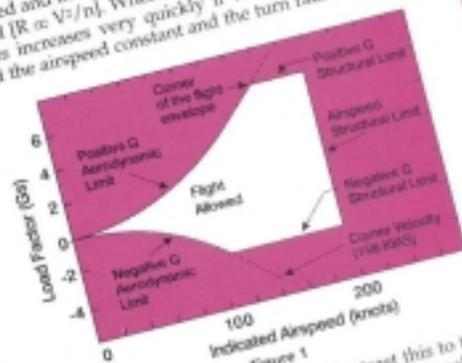

Figure 1
To understand how to minimize the altitude lost during a dive, we must first delve into how an airplane turns. To make the discussion more relevant, I'll use numbers from the F-4G and the T-3A. Figure 1 shows a fictitious but reasonable flight strength envelope for the T-3. The actual flight strength envelope isn't included in the Dash 1, so I extrapolated the envelope from other Dash 1 parameters. This "official" diagram is about as simple as they come—parabolic aerodynamic limit curves ($n \propto v^2$), constant redline speeds and constant structural limits.
A flight strength envelope plotted like figure 1 is also known as a V-n diagram, as the horizontal axis is the aircraft's airspeed (V) while the vertical axis is the load factor (n), or (very loosely) the number of Gs being pulled. The horizontal lines at +6 and -3 Gs are the structural limits. The vertical line that starts at the origin and arcs up to the structural limit lines are the aerodynamic stall limits. An attempt to fly with a combination of air-